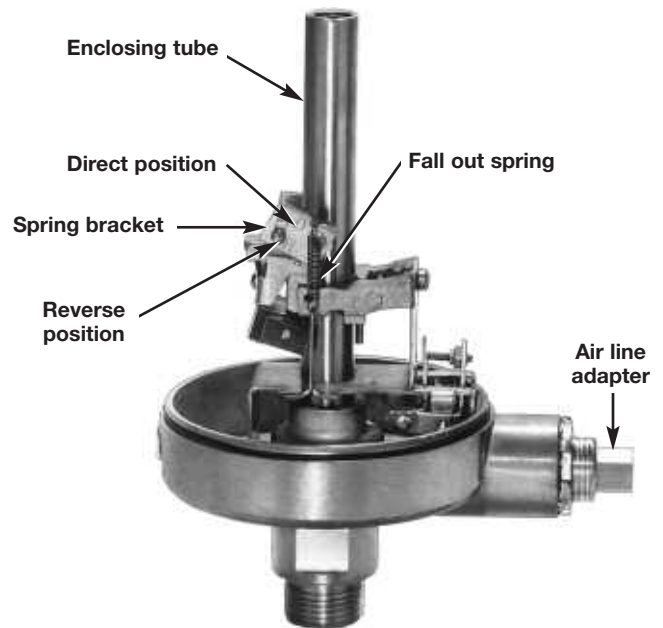

Figure 4
2. Loosen the screw that positions the spring bracket and move it from the direct (D) position to the reverse (R) position; refer to Figure 4.